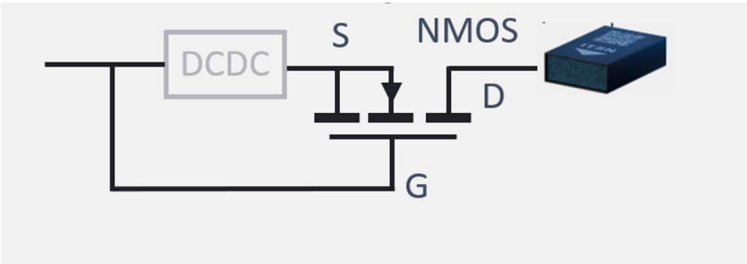

Figure 17: Reverse current protection with NMOS
- An NMOS transistor with the gate connected to the source after the DCDC converter as shown in figure 17. Be careful that the source might need to be at a certain level to enable the complete charge to 2.7V according to the V_{gs} threshold.